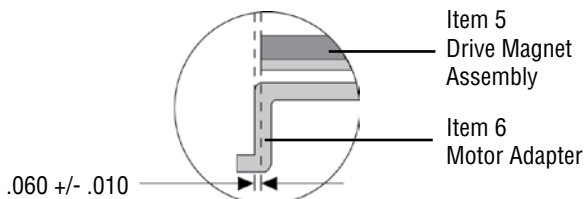

Figure 1
4. Remove drive mag assembly (item 5) from box and slide assembly onto motor shaft making sure shaft key (item 12) is in place. Installation dimension is .060 +/- .010 inches as shown in Figure 1. Tighten 2 set screws (item 5A) to 228 in-lbs. (25.8 N-m).